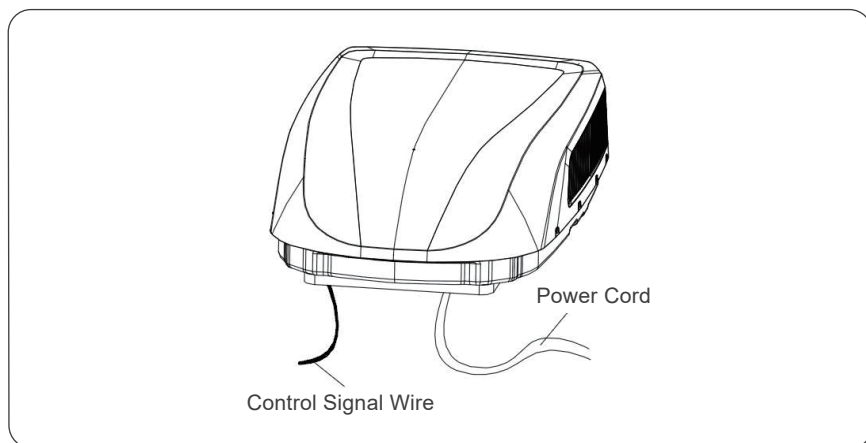

Figure 11
- As shown in Figure 11, the outdoor unit has two sets of outgoing wires: the power cord (high current) and the control signal wire. The power cord should be directly connected to the terminal box while the control signal wire should be connected to the control signal wire of the indoor unit.